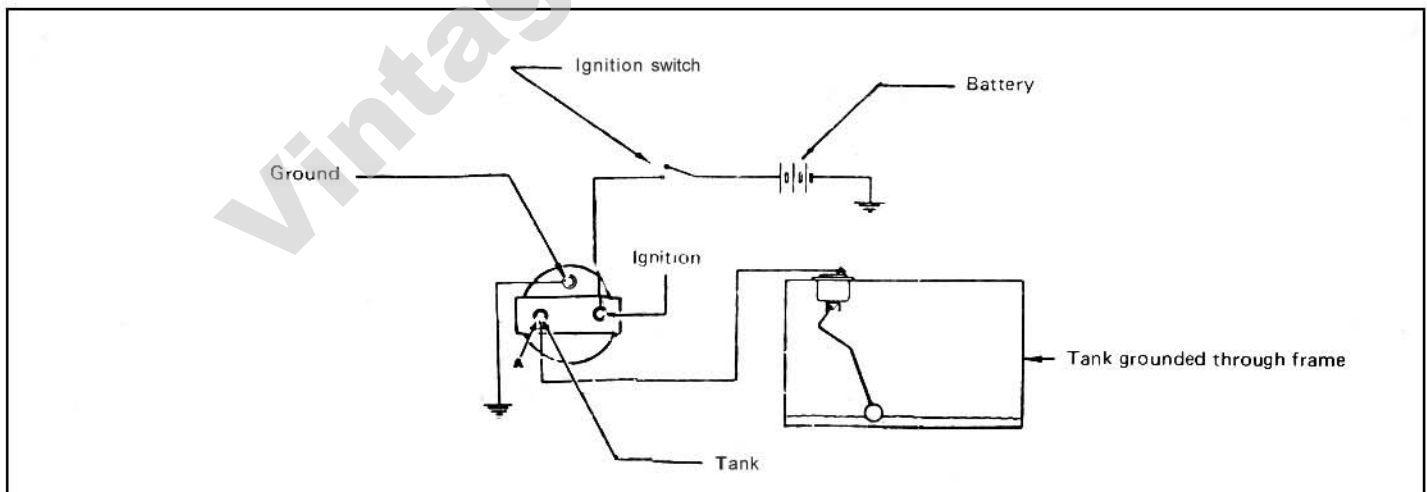

FIGURE 4
2. Connect a No. 16 gauge wire from terminal marked "TANK" on the fuel gauge ("A," Figure 4) to the terminal on top of the Tank Unit.
4. The fuel gauge case must also have a good common ground with the tank unit. A third terminal on the fuel gauge marked "GRD" is provided for this purpose (Figure 4).